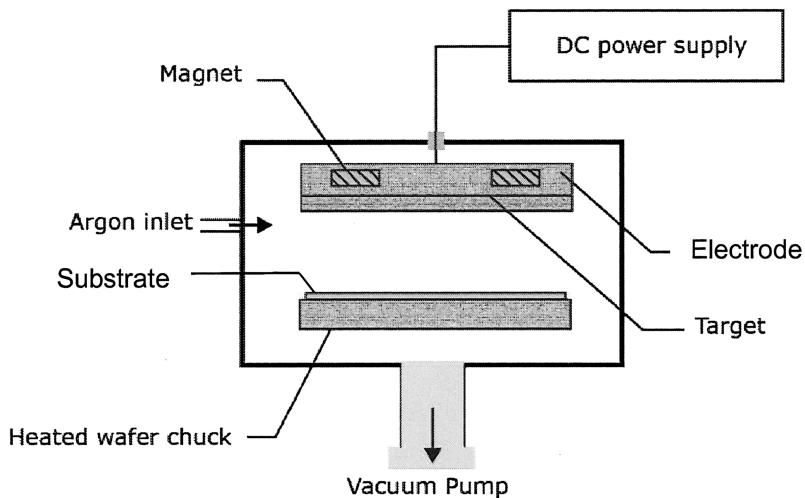

Figure 2: A Magnetron Sputtering System
- (c) Figure 2 shows a schematic diagram of a magnetron sputtering system.